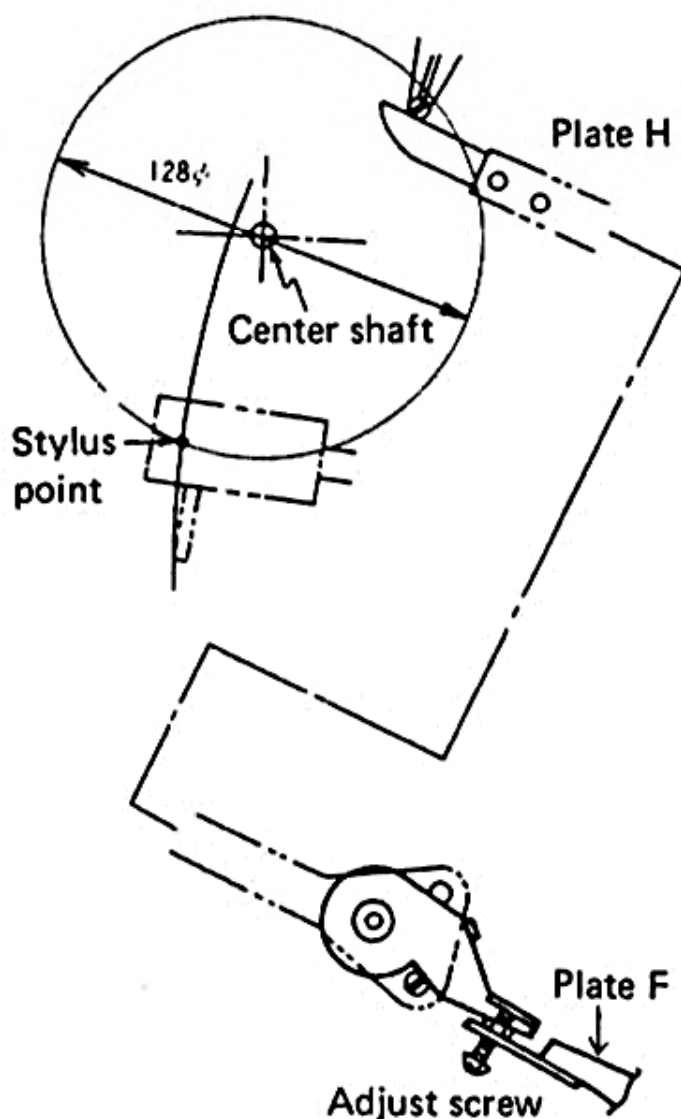

Fig. 21-b
2. With cartridge stylus 64mm from center shaft, so that tip screw of plate F and plate G contact, adjust tip screw (Fig. 21-b).